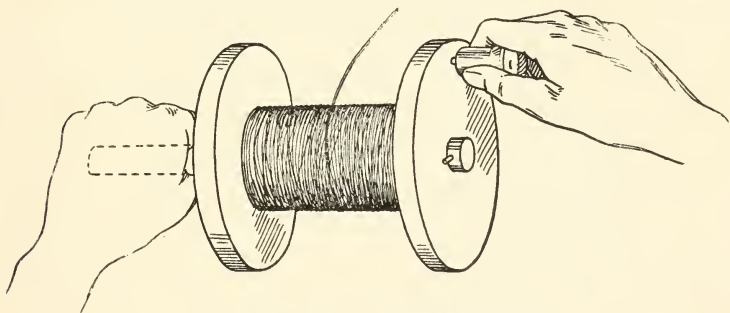

FIG. 28. — A Good Hand Kite-Reel.
**A Good Hand Kite-Reel** that can be held in one hand and operated by the other is shown in Fig. 28. Get a  $\frac{1}{2}$ -lb. size baking-powder can for the winding-spool, locate the center of the cover and bottom end, and with a can-opener
two holes through it in the positions shown, for pins to keep the spool in its proper place. Wooden pegs can be cut for pins. For a winding handle, pivot a spool on the right-hand disk by means of a nail or screw. The inner flange of the spool handle may be cut off as shown in Fig. 28.
waist, it will go wherever you go, and always be within easy reach. Figure 31 shows one simple to make. The spool of this is made similar to that of the hand reel shown in Fig. 28. If, however, you wish a larger winding-spool, you can use a larger can than the baking-powder can — a tomato can or syrup can — and increase the diameter of the wooden flanges accordingly. Instead of the spool turn-